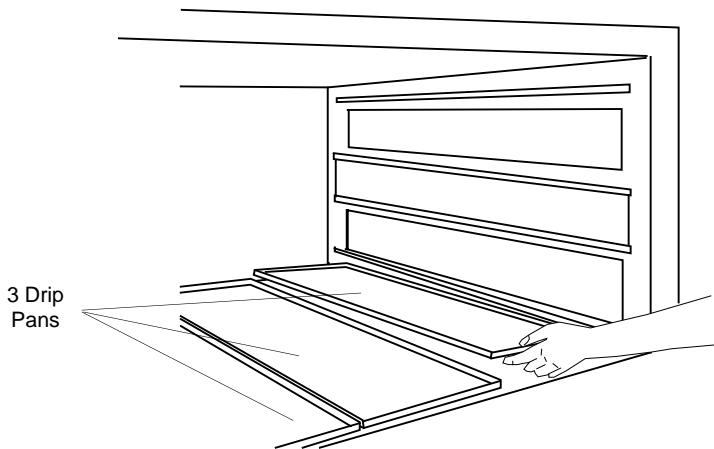

Figure 4-9.
4. Remove the 3 drip pans from the bottom of the oven. Refer to Figure 4-9